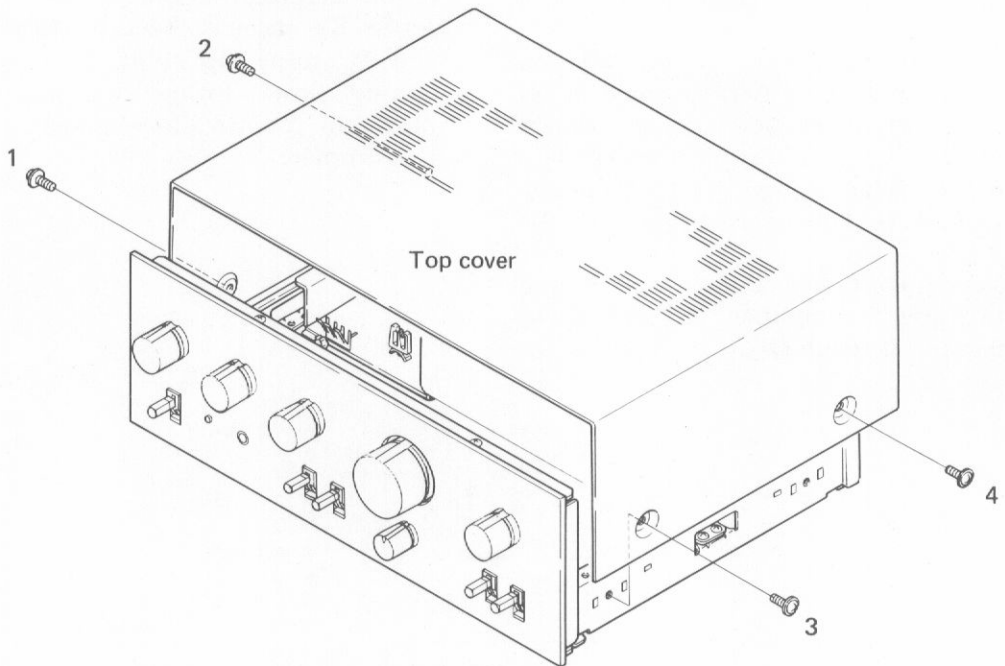

Fig. 3
1. Remove the 1 ~ 4 screws on the each side of the top cover as shown in Fig. 3.